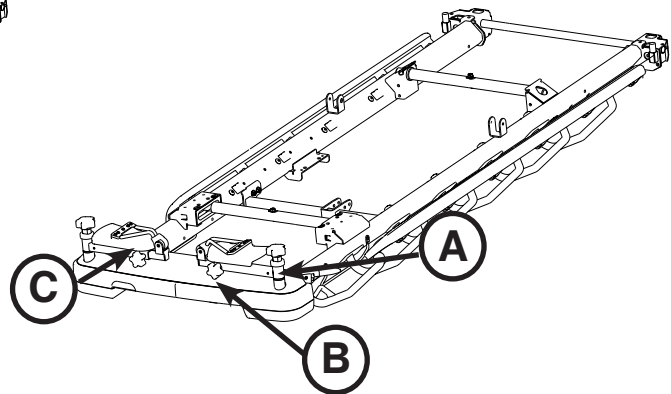

Figure 44: Foot Supports In Stored Position
To store the foot supports (see Figure 44):
1. Fully retract the foot supports using leg knob (B).
2. Fold the foot support pads (C) down toward the support bar.
3. Loosen the knee knob (A), rotate the foot supports to the position shown in the Figure 44 below.
4. Tighten to secure in place using the knee knob (A).